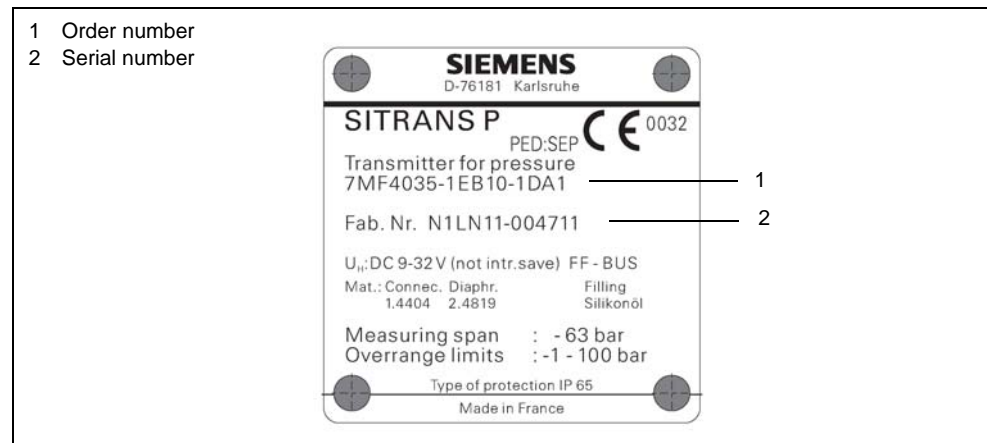
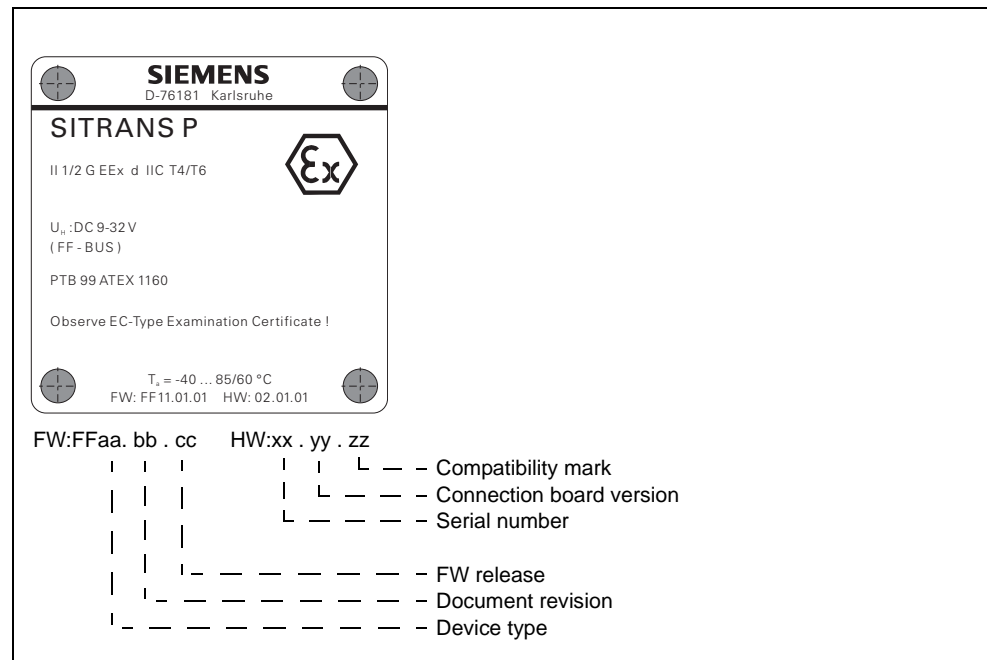
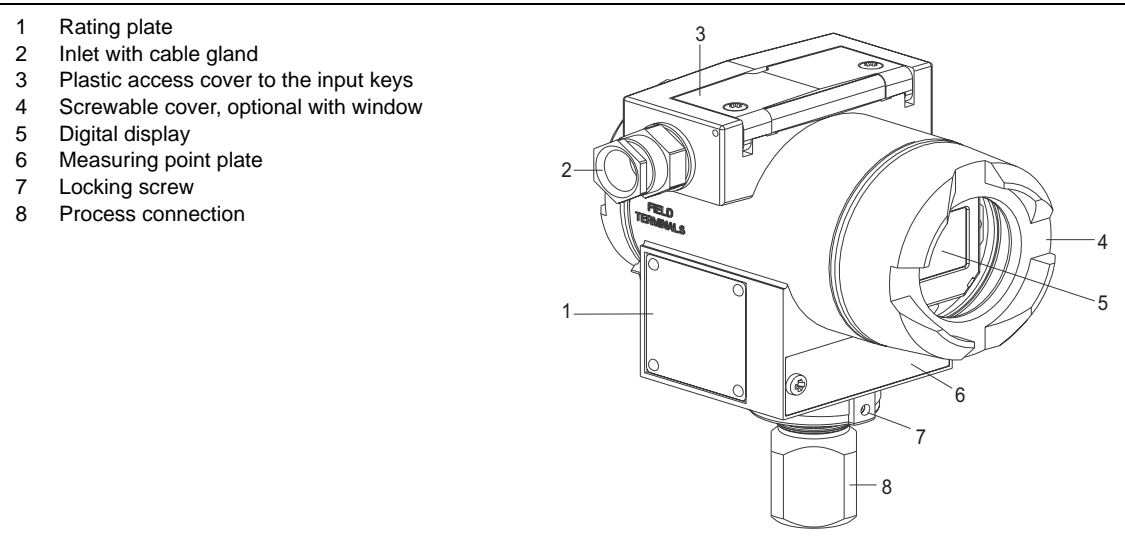
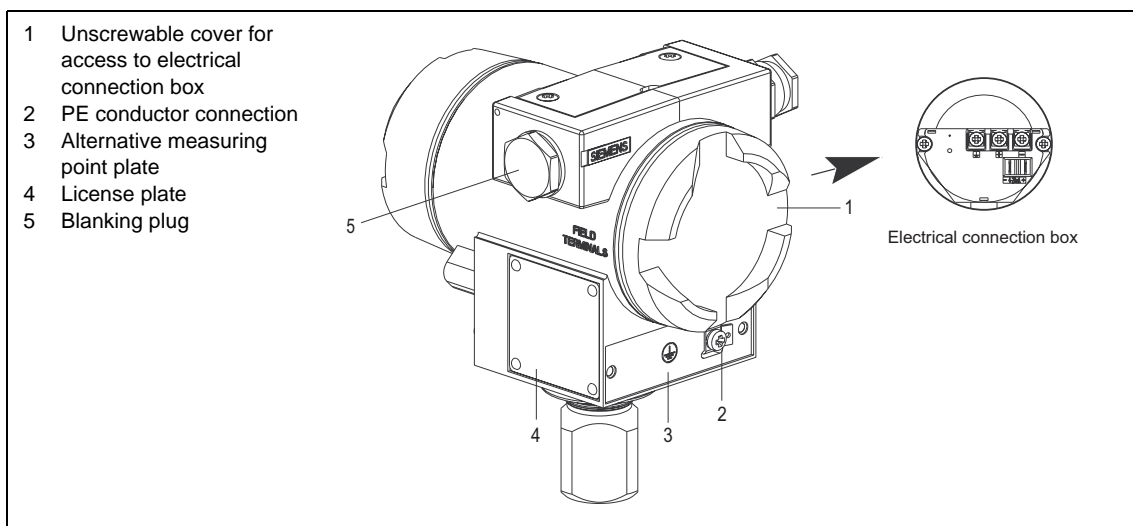

Figure 1 Example for a rating plate
Figure 2 Example of license plate
Figure 3 Front view of device SITRANS P, DS III FF series, pressure series
Figure 4 Rear view of device SITRANS P, DS III FF series, pressure series
The rating plate (Figure 1, page 13 and Figure 3, page 15) with the order number is on the side of the housing. You can determine the optional constructional details and the possible measuring range (physical properties of the built-in sensor element) with the specified number and specifications in chapter 12, page 163.
Opposite it is the license plate (Figure 2 and Figure 4, page 15). This contains information about the hardware and firmware versions among other thing.
The electronics housing is made of die-cast aluminum or stainless steel precision casting. There is an unscrewable, round cover on the front and rear. The front cover (see (4) Figure 3, page 15) can be designed as a window in order to be able to read measured values directly from the digital display. The inlet (see (2) Figure 3, page 15) to the electrical connection box is located on the side, either left or right. The opening which is not used is sealed by a blanking plug (see (5) Figure 4, page 15). The PE conductor terminal (see (2) Figure 4, page 15) is mounted at the front of the housing.
The electrical connection box is accessible for power supply and screen when the rear cover (see (1) Figure 4, page 15) is removed. The bottom part of the housing contains the measuring cell with process connection (see (8) Figure 3, page 15). This is secured turning by a locking screw (see (7) Figure 3, page 15). The modular concept of the SITRANS P, DS III FF series allows the measuring cell and electronics to be exchanged as required.
At the top of the housing you can see a plastic cover (see (3) Figure 3, page 15) which can be opened. The input keyboard is beneath this.